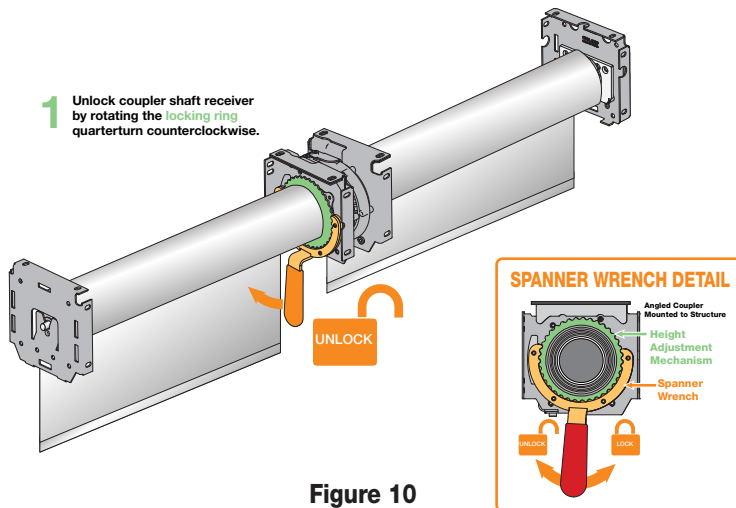

Figure 10
1. Unlock height adjuster mechanism (or coupler shaft receiver) located at the operator end of fabric roller assembly being adjusted by using the included Spanner to rotate the metal ring about ¼ turn counterclockwise when viewing the face of the coupler assembly (Fig. 10).
5. Tighten the locking ring by using the included Spanner to rotate it approximately ¼ turn clockwise (reverse of step 1) (Fig. 10).